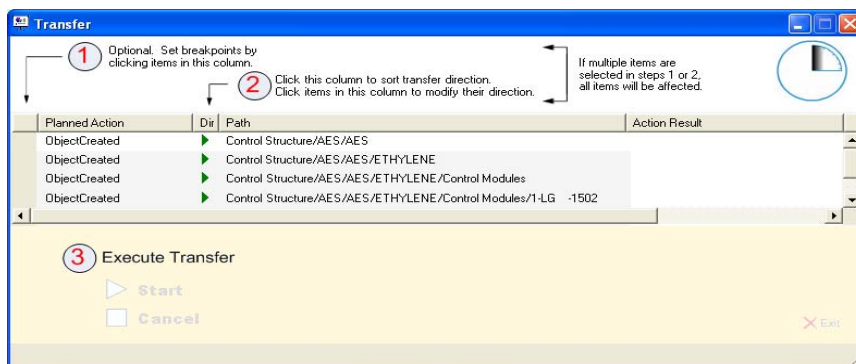

Figure 43. Data Synchronization Steps
- Once the differences between the two sides have been viewed, click the **ExpressSync** icon to list the transactions of the data from the two sides. The product displays the Transfer window (Figure 43) which shows the transactions that are executed in Step 4.